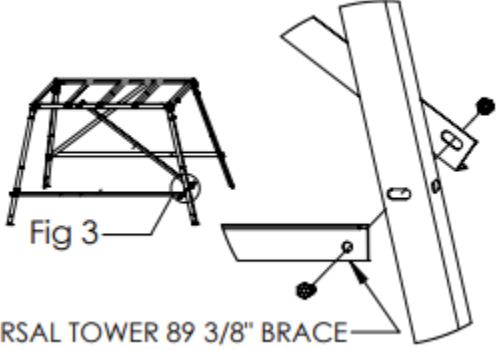

Fig 3
4. Attach 89 3/8" brace and the free end of 71" brace from step 3 to the leg. Repeat on the opposite side of base. Do not tighten these at this time. (Fig 3)